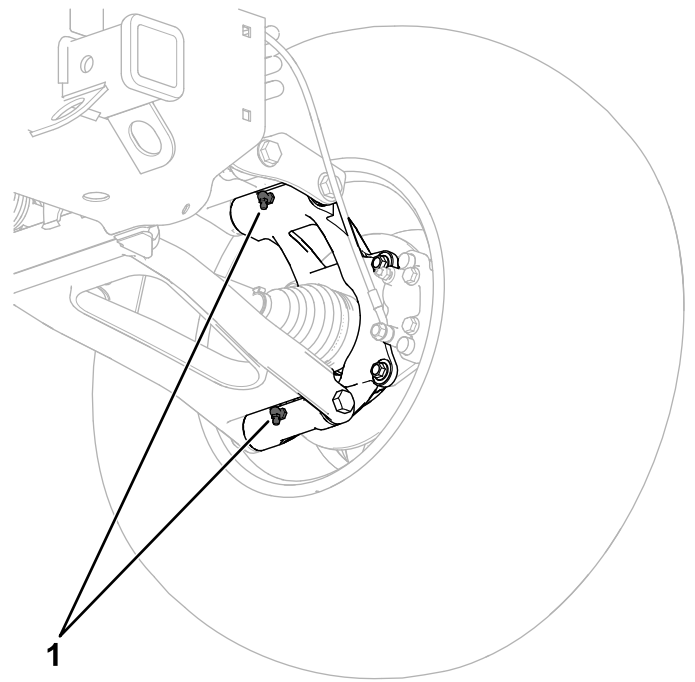

Figura 95
- **Pivotes traseros (4)**; consulte la Figura 95